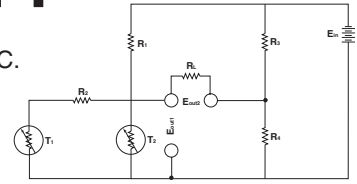

Figure 1
\*\*\* See Figure 1, example 1 on typical linear component application page D-45.
- Using the Linear network as two legs of a Wheatstone bridge add the two additional legs,  $R_3$  and  $R_4$  so that  $E_{out2} = 0$  when  $T = 30^\circ C$ . (See Figure 1.)  $R_3$  and  $R_4$  are calculated from five known conditions.